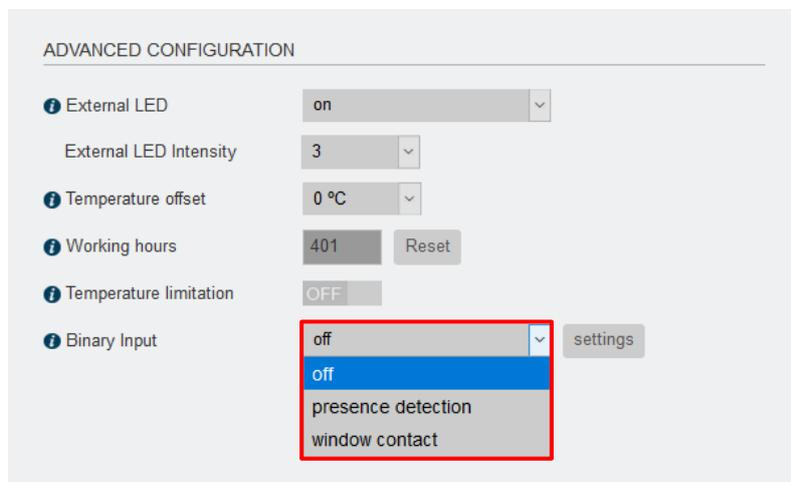

Figure 3.4 Access to Binary input options from advanced configuration.
- In advanced configuration the Binary input in the dropdown menu the options “**off**”, “**presence detection**” or “**window contact**” can be selected (See Figure 3.4).